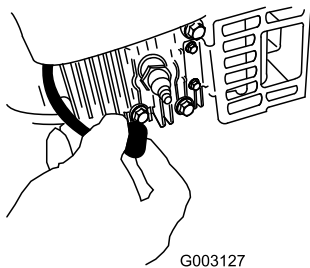

Figure 34
2. Disconnect the spark plug wire from the spark plug (Figure 34) before performing any maintenance procedure.